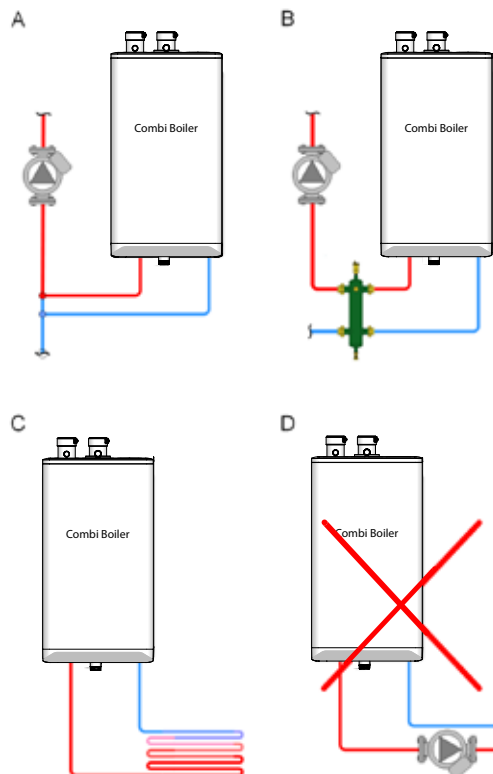

Figure 27: Permitted and prohibited space heating combi boiler piping
Figure 27 illustrates that the integral space heating pump can be hydraulically separated from the distribution pump by (A) closely-spaced tees, or by (B) a low-loss header. Although best practice is primary/secondary, in some cases (C) the integral pump will be adequate to provide flow through the building heat emitters. The installer / designer must ensure that if the integral pump is used for the space-heating emitters it is powerful enough for system distribution. Avoid (D) where an external pump is placed in series with the integral pump because the external pump runs when the Combi boiler is serving DHW. It will strongly compromise DHW response.